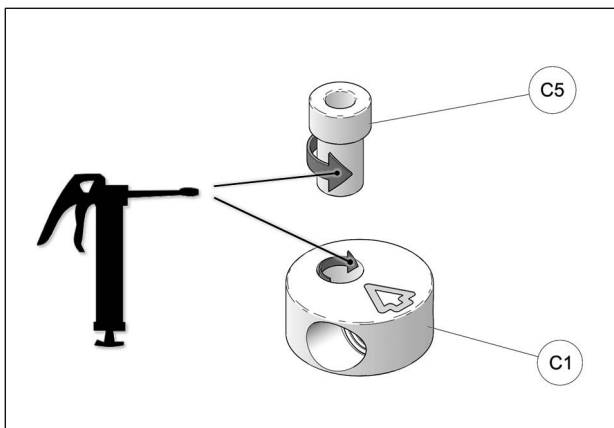

Fig. 22
13. Apply grease evenly all around step spacer bushing (**C5**) and in hole of aluminum disk (**C1**) when assembling these parts together. See Fig. 22